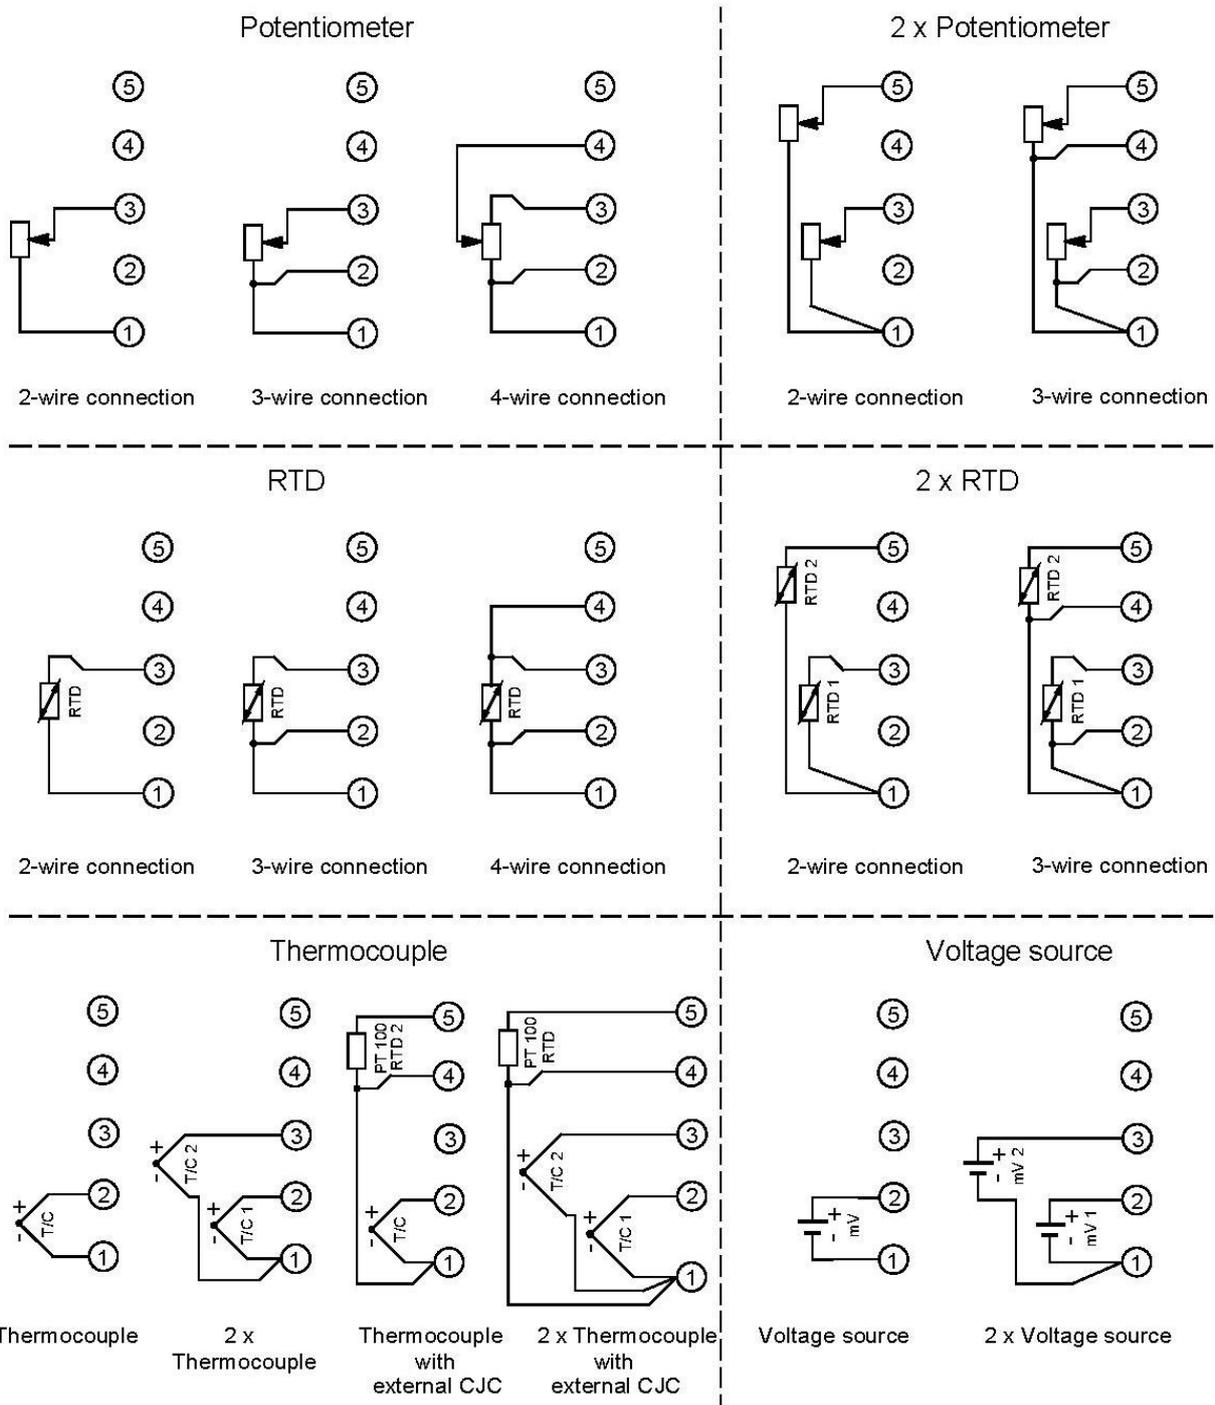

Figure 3. Methods of connecting sensors, potentiometers and voltage sources
- type of the mathematical function processing the signal from two sensors (2x RTD 2-wire connection, 2x RTD 3-wire connection, 2x thermocouple, 2x thermocouple with external CJC (see → Figure 3. Methods of connecting sensors, potentiometers and voltage sources)):